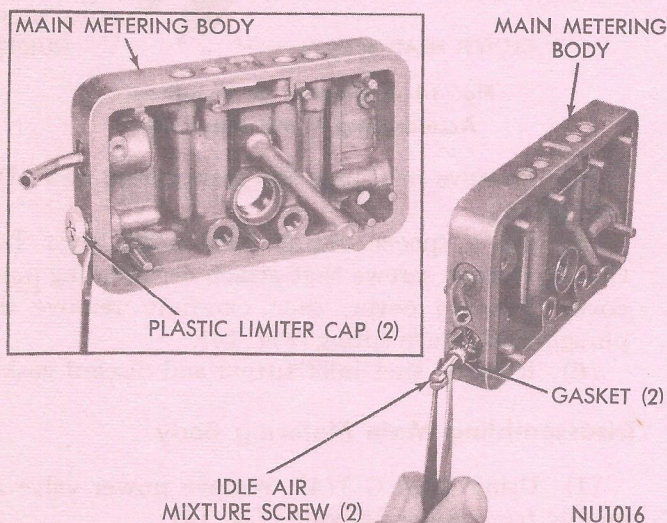

Fig. 17—Removing Idle Air Mixture Screws and Gaskets
(3) Using a suitable tool, pry plastic limiter caps off the two idle air mixture screws. Remove screws and gaskets. (Be sure and count the number of turns to seat screws, as the same number of turns from the seat must be maintained at installation) (Fig. 17).